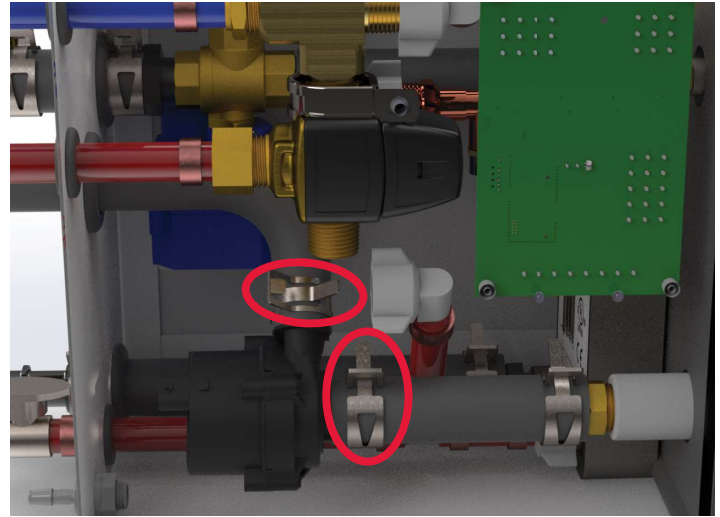

Figure 58
- Leave the clamps on the 90° hose and hose from the tank - to be reused later - see Figure 58.